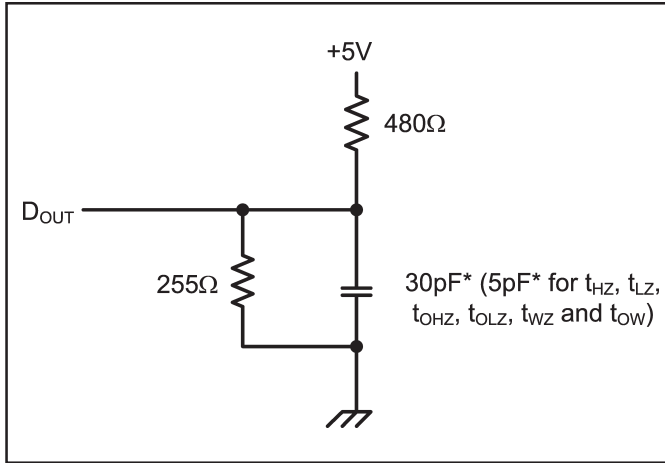

Figure 1. Output Load
8. Transition is measured  $\pm 200\text{ mV}$  from steady state voltage prior to change, with loading as specified in Figure 1. This parameter is sampled and not 100% tested.
Output Load	See Figures 1 and 2